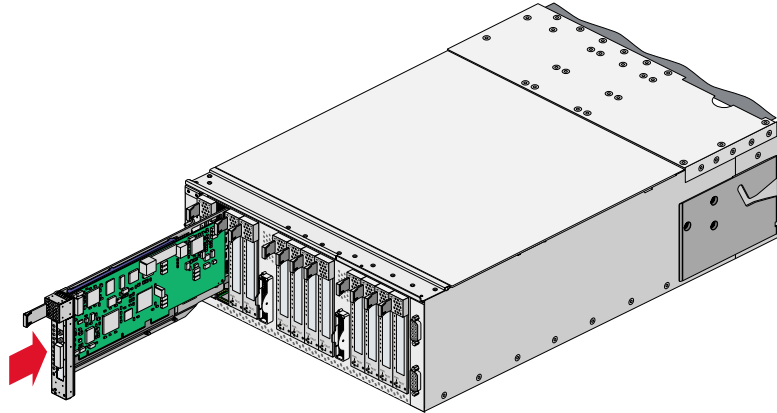

Figure 12-8 Installing a Card in a Slot
7. Insert the carrier-mounted PCI card into the vacant slot, using the slot guide, as shown in Figure 12-8.